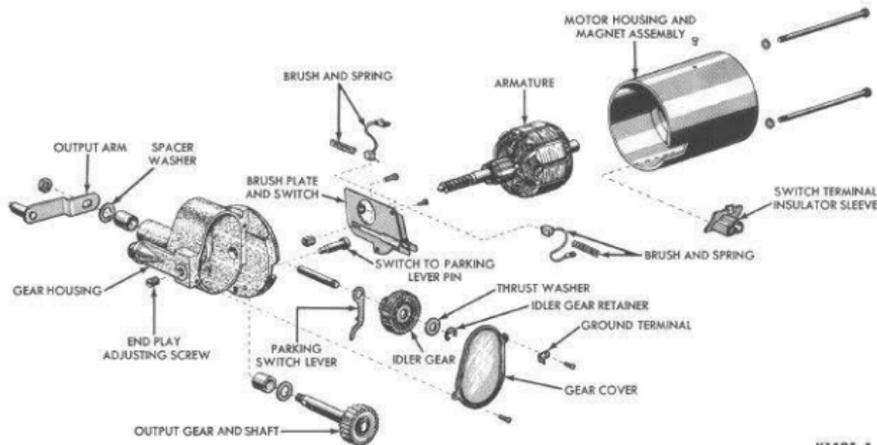

FIG. 92—Disassembled Single-Speed Wiper Motor
**Single-Speed Electric Wiper Motor Disassembly.** A disassembled view of the single-speed wiper motor is shown in Fig. 92.